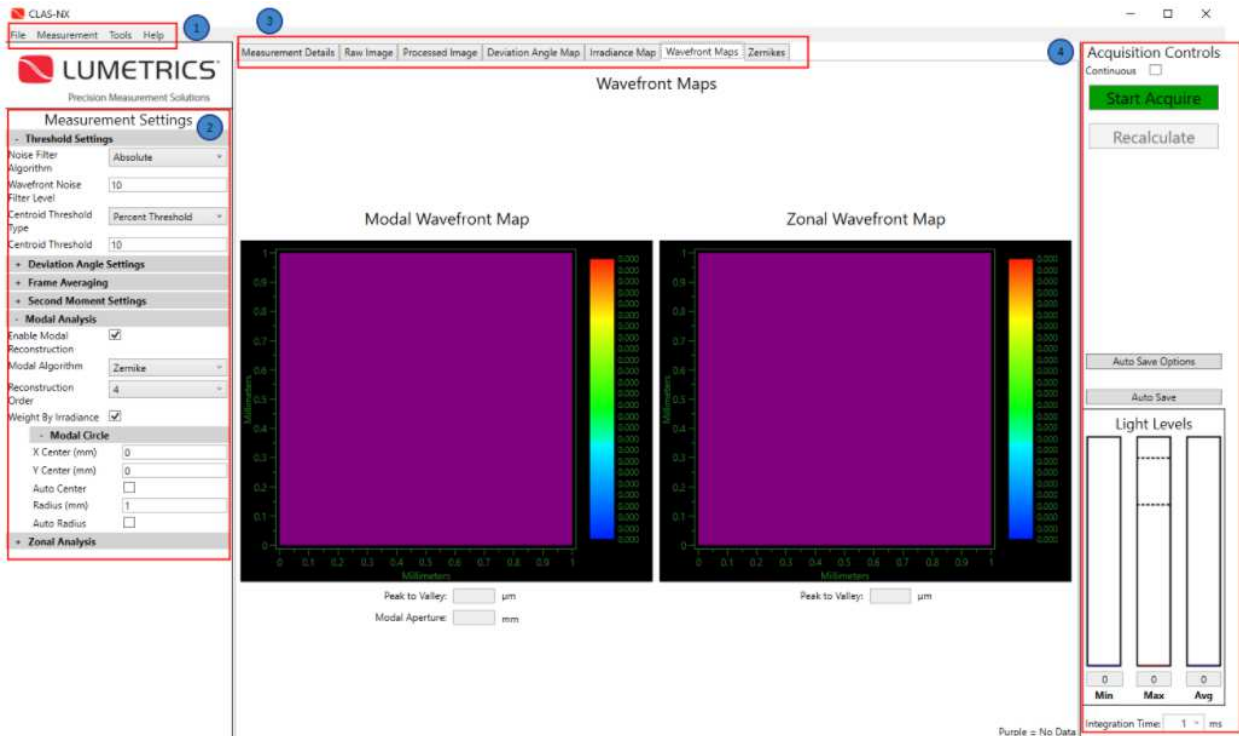

Figure 11: Main Screen
The CLAS-NX user interface (UI) has four primary areas, Figure 11: